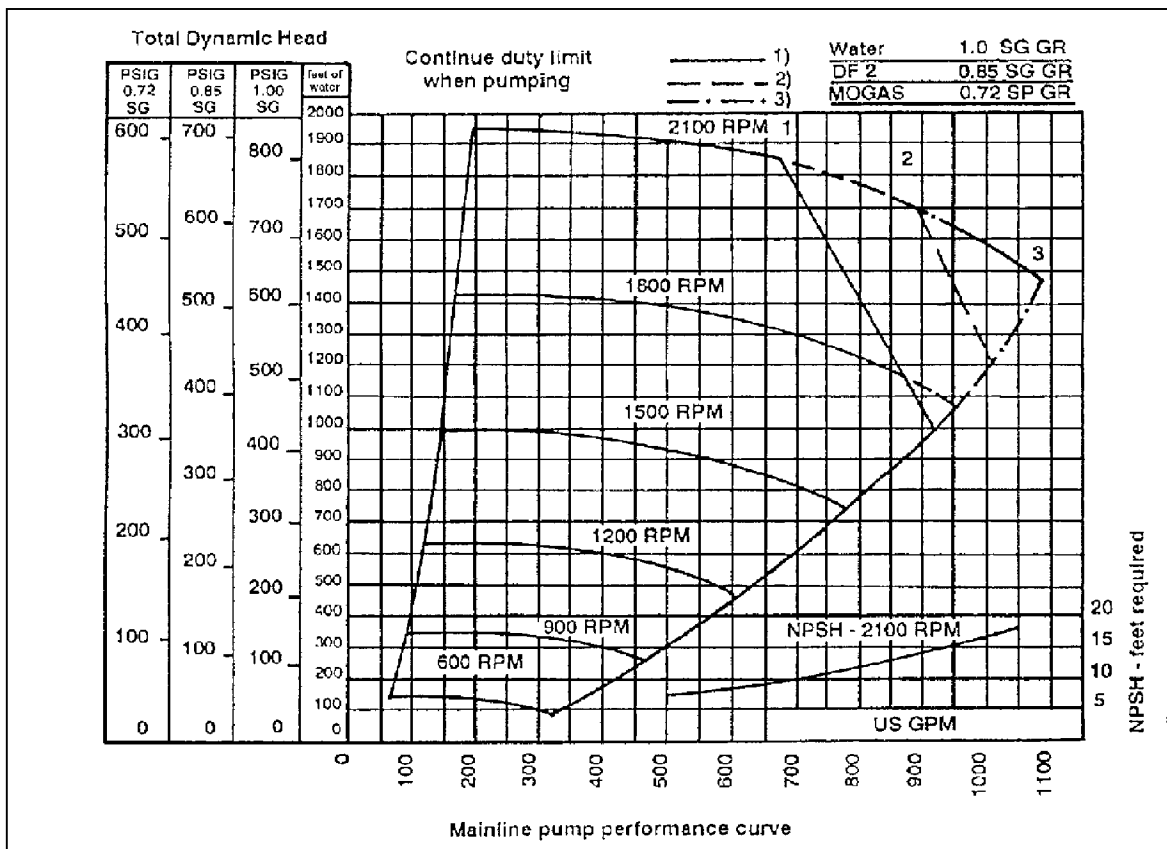

Figure 11-2. 800 GPM main line pump graph.
**800 GPM main line pump graph.** This pump graph (Figure 11-2) looks different but is constructed and interpreted the same as the other pump graphs used. It shows total dynamic heads in PSI, feet of head, and flow rate for water (1.0 sp/gr), DF-2 (0.8254 sp/gr), and Mogas (0.7254 sp/gr) from 770 RPM to 2,100 RPM.